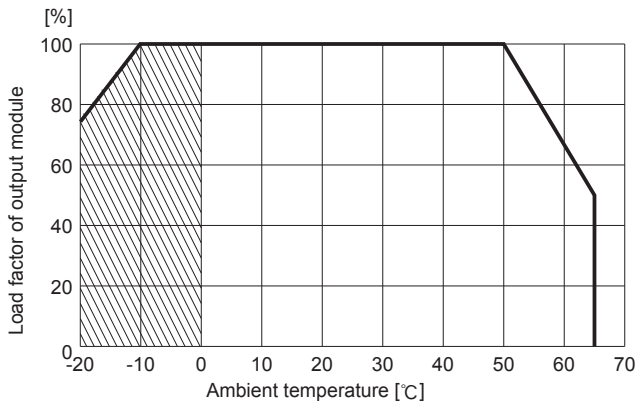
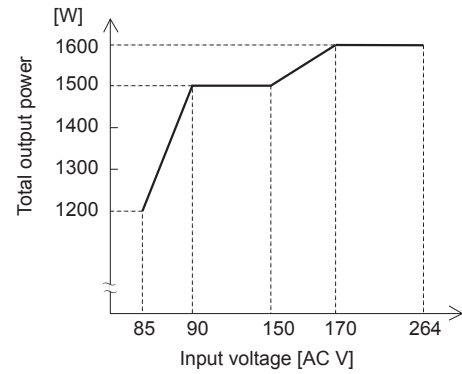

Fig.4.4 Derating curve of output module depend on ambient temperature
Fig.4.5 Derating curve depend on input voltage
- Derating curve of output module depending on ambient temperature and derating curve depending on input voltage are shown in Fig.4.4 and Fig.4.5.